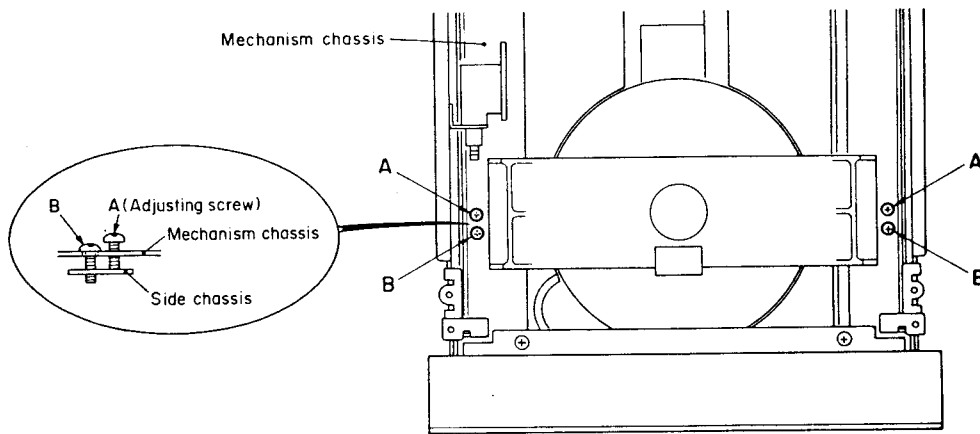

Fig. 4-8
• Refer to Figures 4-8, 4-9, and 4-10.
• 図 4-8, 4-9, 4-10 参照